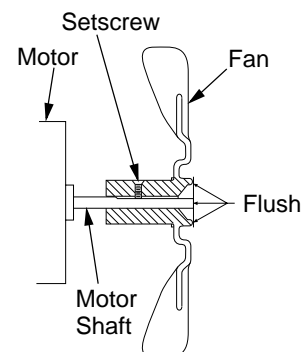

Figure 10 - Fan Cross Section and Setscrew Location
6. Replace fan on motor shaft. Place fan hub flush with end of motor shaft (see Figure 10).